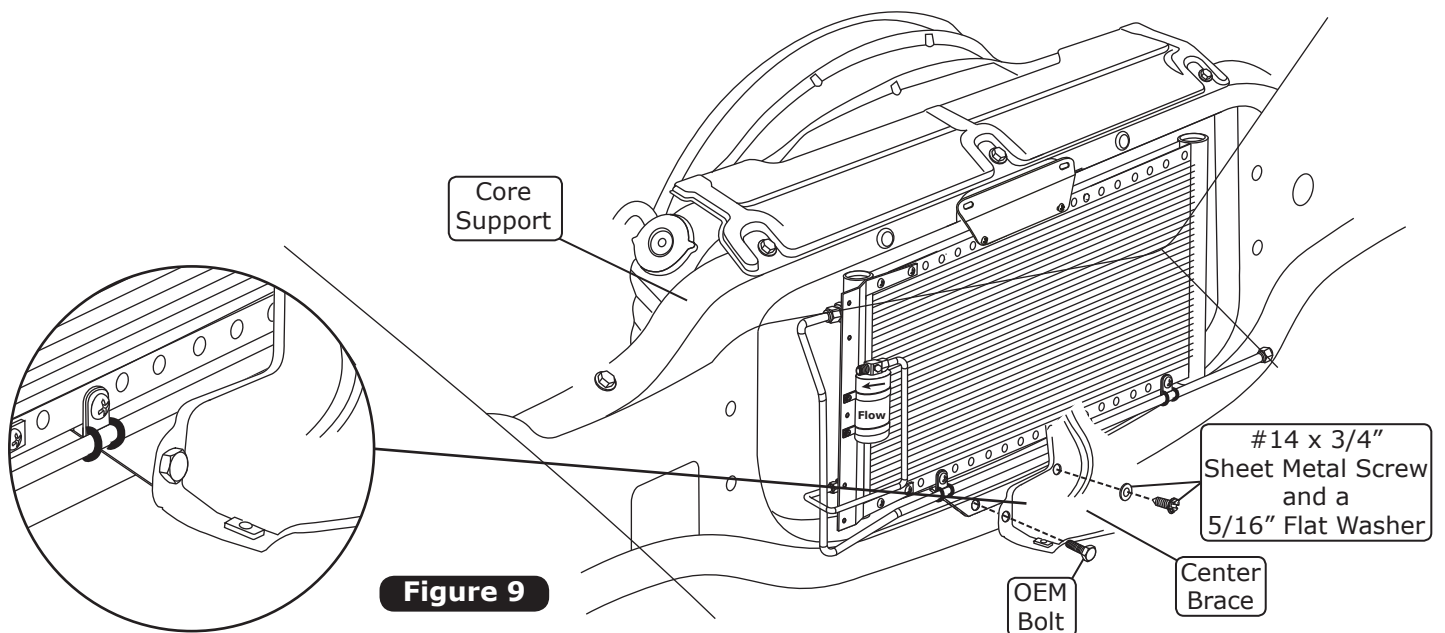

Figure 9
NOTE: The top mounting bracket mounts on the front side of the core support (See Figure 9, below).
4. Secure the bottom driver side of the condenser to the core support using a #14 x 3/4" sheet metal screw and a 5/16" flat washer (See Figure 9, below).